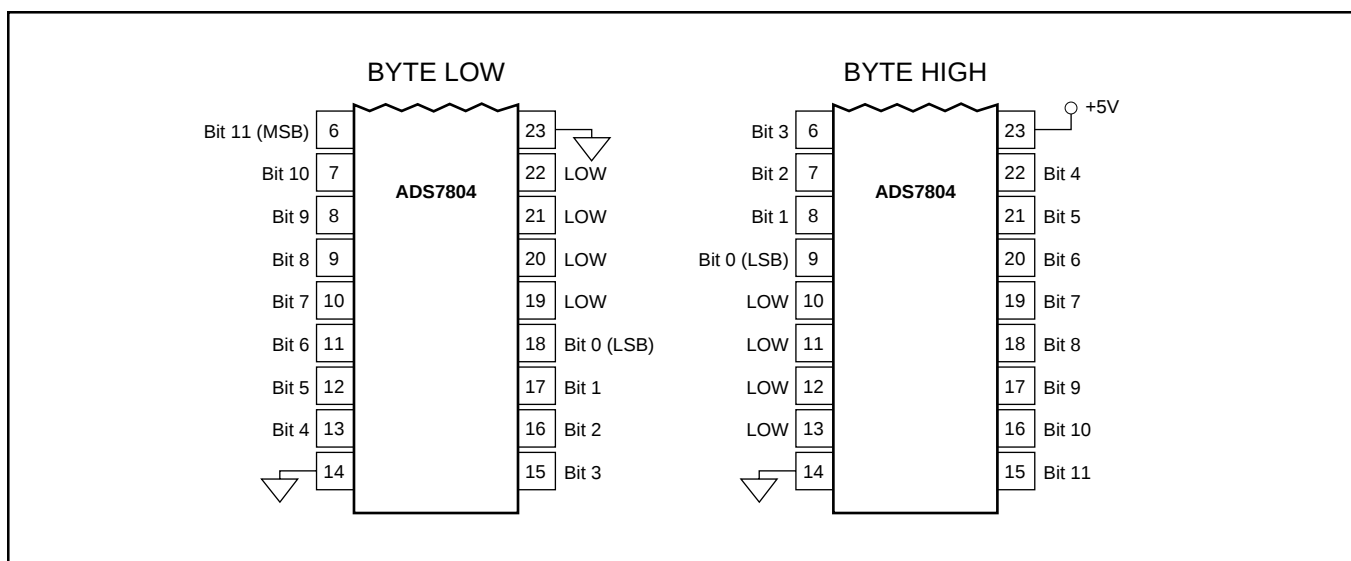

FIGURE 2. Bit Locations Relative to State of BYTE (pin 23).
NOTE: (1) See Figures 2 and 3 for constraints on data valid from conversion "n-1".
The ADS7804 outputs full or byte-reading parallel data in Binary Two's Complement data output format. The parallel output will be active when $\overline{R/\overline{C}}$ (pin 24) is HIGH and $\overline{CS}$ (pin 25) is LOW. Any other combination of $\overline{CS}$ and $\overline{R/\overline{C}}$ will tri-state the parallel output. Valid conversion data can be read in a full parallel, 12-bit word or two 8-bit bytes on pins 6-13 and pins 15-22. BYTE (pin 23) can be toggled to read both bytes within one conversion cycle. Refer to Table III for ideal output codes and Figure 2 for bit locations relative to the state of BYTE.